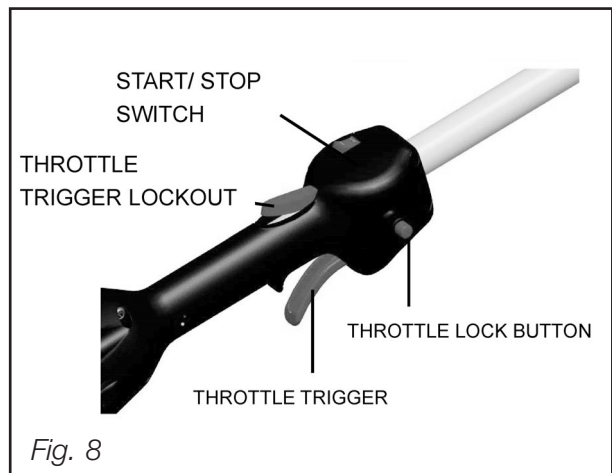

Fig. 8
See Figures 8, 9 and 10
See Fig. 8
2. Press the rocker start/stop switch to START. (see Figure 8).